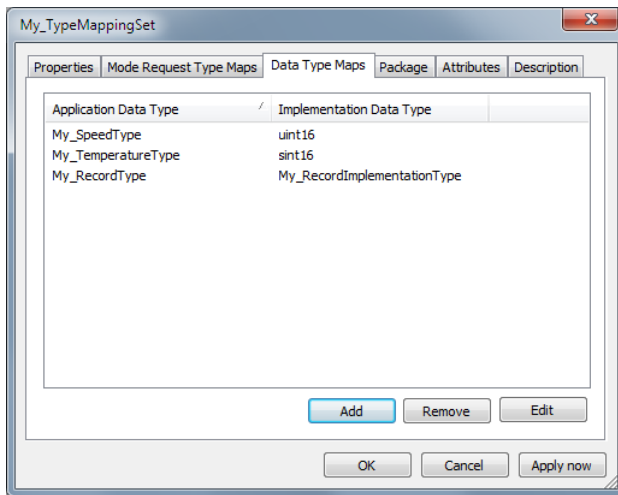

Figure 4-22 Record type mapping
- The record application data type is now mapped with the record implementation data type (see Figure 4-22).